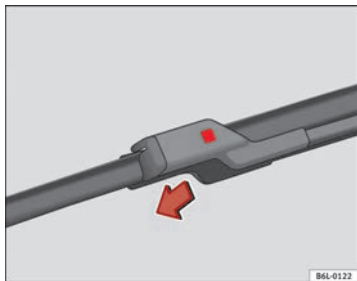

Fig. 129 Change windscreen wiper blade
- Press on the securing tab ⇒ fig. 129.